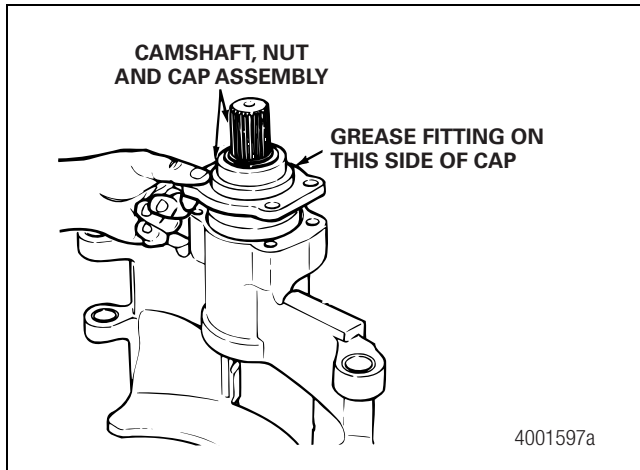

Figure 7.11
8. Insert the camshaft, nut and cap assembly into the caliper. Position the grease fitting in the cap OUTBOARD to allow you to install the bracket in Step 9 and reach the fitting for service. Figure 7.11.